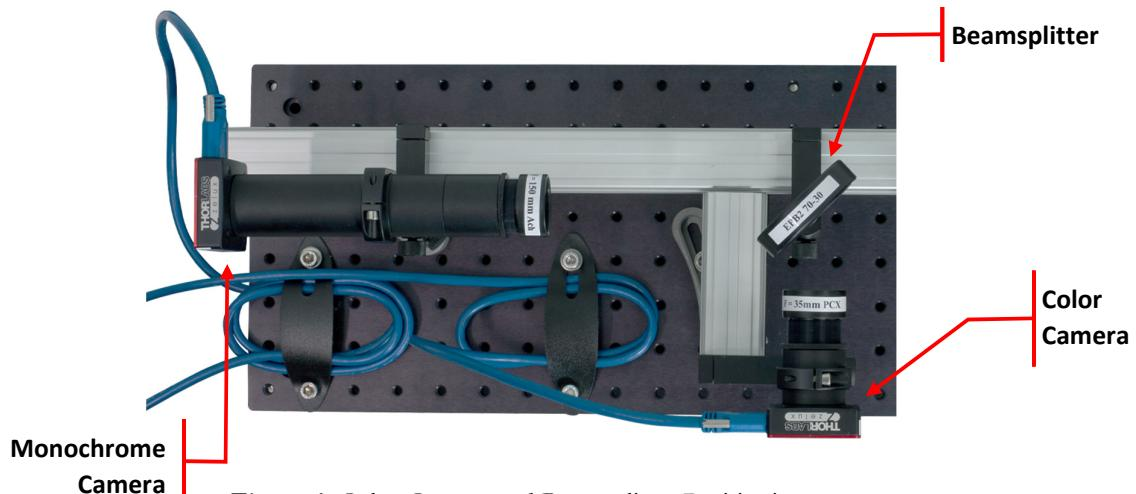

Figure 1: Color Camera and Beamsplitter Positioning
10. Place a rail carrier on the main rail at the base of the short rail (see Figure 1), and mount the beamsplitter angled at 45°, so that light will come from the objective and reflect off it to the color camera.
13. Make sure the color camera is facing along the rail (i.e., facing perpendicular to the main optical rail. It is easiest to see whether this is correct by standing up and looking straight down on the camera, the same perspective as used to take the picture in Figure 1 above).